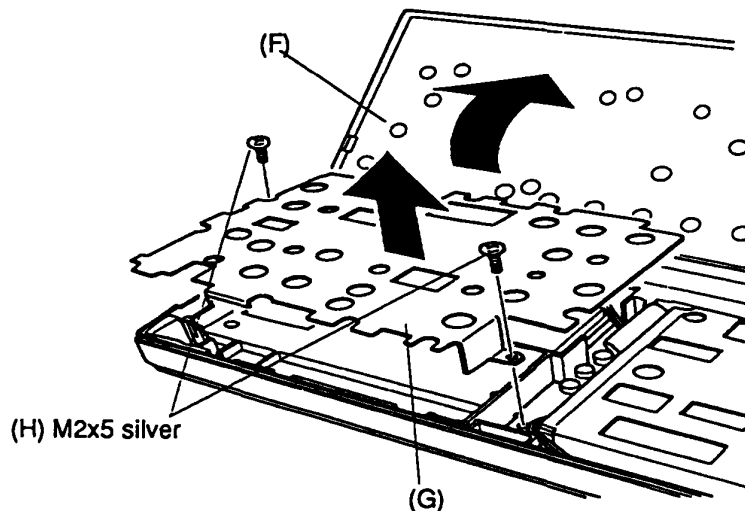

Figure 4-7 Removing the metal plate screws and metal plate
9. Remove the two (M2x5 silver) screws (H) securing the metal plate and then place the metal plate aside (Figure 4-7).
4. Install the metal plate and secure the two (M2x5 silver) screws (Figure 4-7).